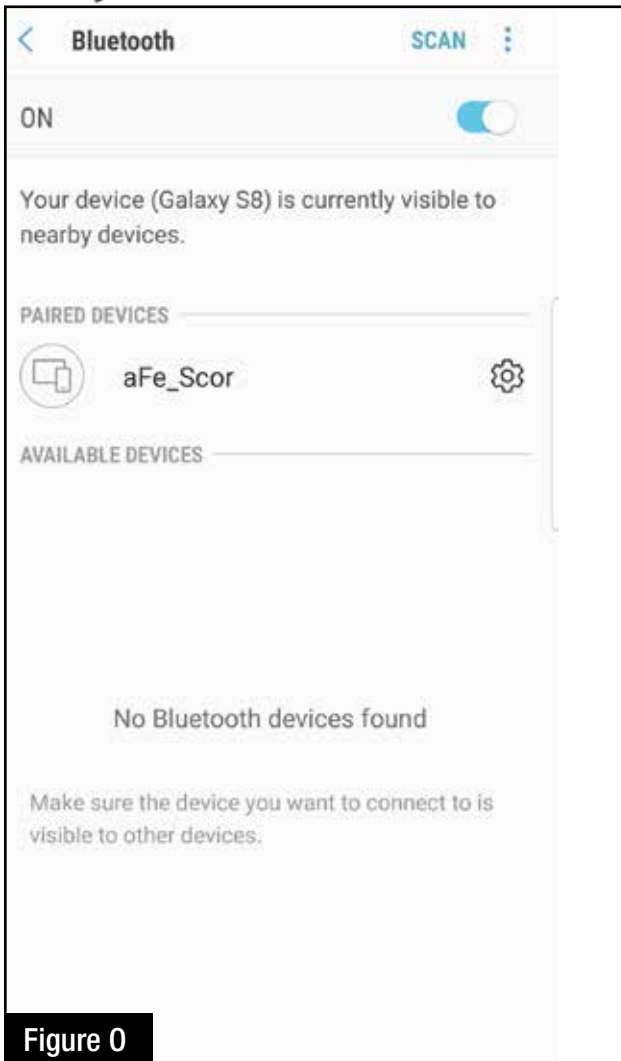

Figure 0
**Refer to Figure 0\* (app connection- Android).**